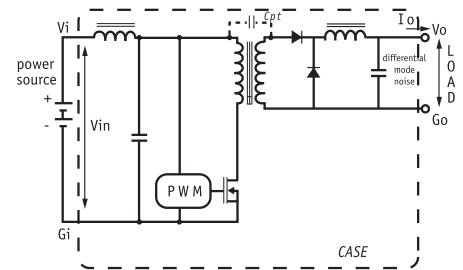

Fig 1 : Power converter output differential noise model with isolated case
- The differential mode component is a mode that occurs between the output V_o and its return line G_o as shown in fig 1. The differential mode